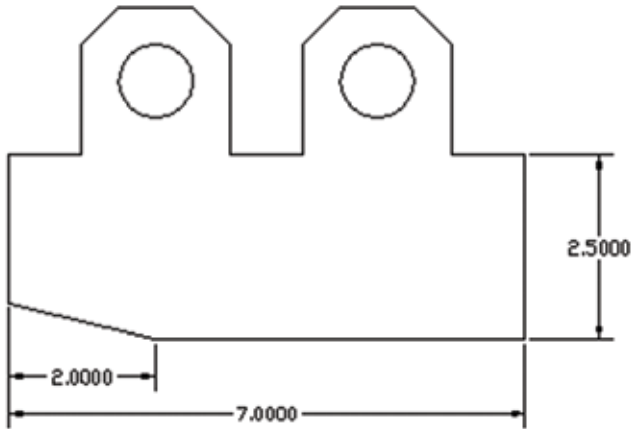

Figure 4.2
- A properly drawn dimension of 7.0000 should show. (Note Figure 4.2)